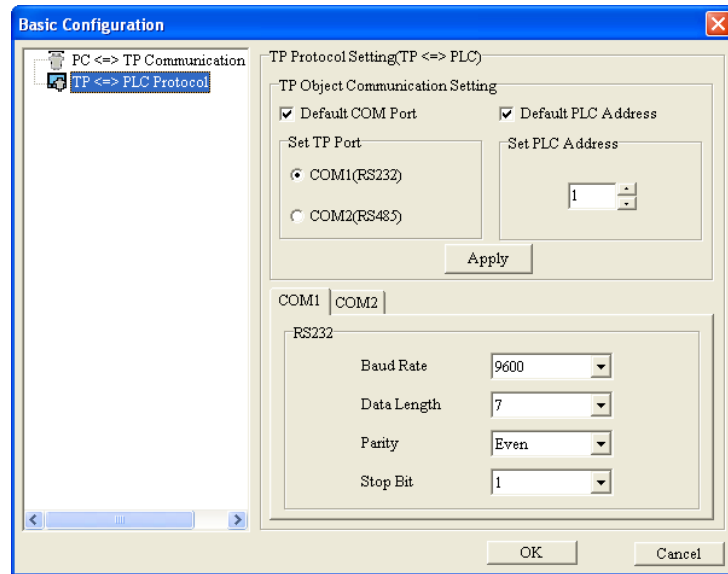

Figure 3-13 TP<=>PLC Protocol
- **TP<=>PLC Protocol:** Users can set the communication between a TP series text panel and the equipment connected to the TP series text panel, as shown in Figure 3-13.